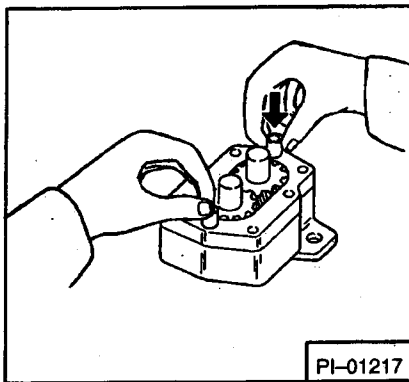

Fig. 4-36 Install Dowel Pins
9. Install dowel pins through large holes in gear plate (Fig. 4-36).